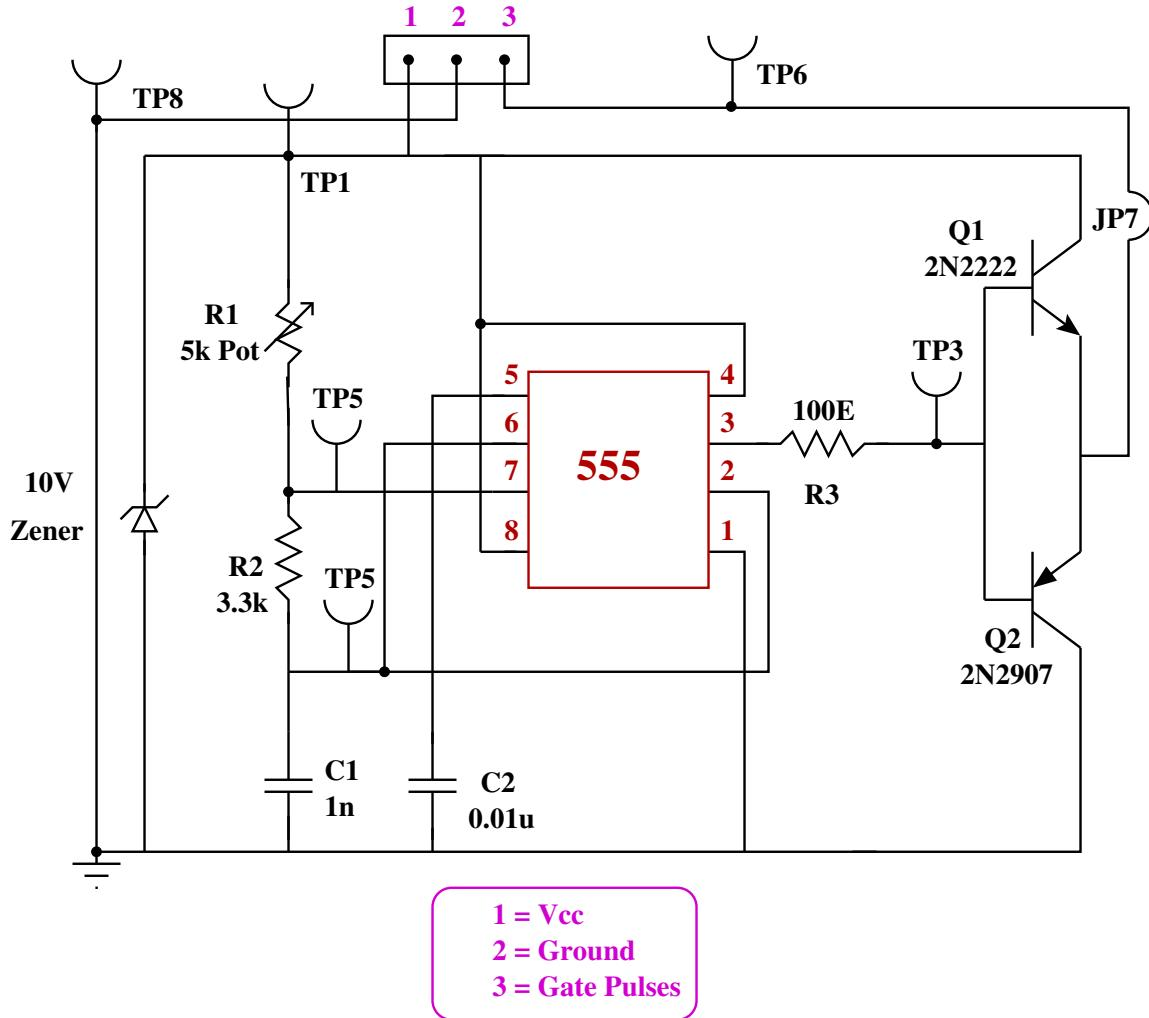

Figure 9.2: Control Circuit of ZVS-Boost Converter
8. The Resonant Frequency is selected to be 200KHz and then from equation 9.3, the $L_r = 56.84 \mu H$ and $C_r=0.01 \mu F$ values are obtained. The L_r and C_r in figure 9.2 form the resonant circuit.
8. The Resonant Frequency is selected to be 200KHz and then from equation 9.3, the $L_r = 2 \mu H$ and $C_r=0.47 \mu F$ values are obtained. The L_r and C_r in figure 9.2 form the resonant circuit.